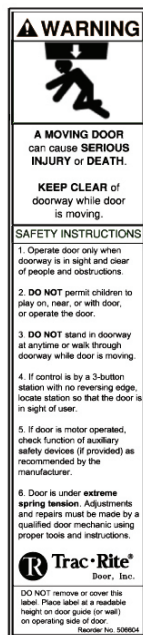

Figure 11
8.3 Attach the guide warning label (See Figure 11) to wall next to the guide at eye level. If mounting to an unfinished surface such as bare masonry or wood, attach the label to a nonporous surface and use mechanical fasteners to mount on wall.